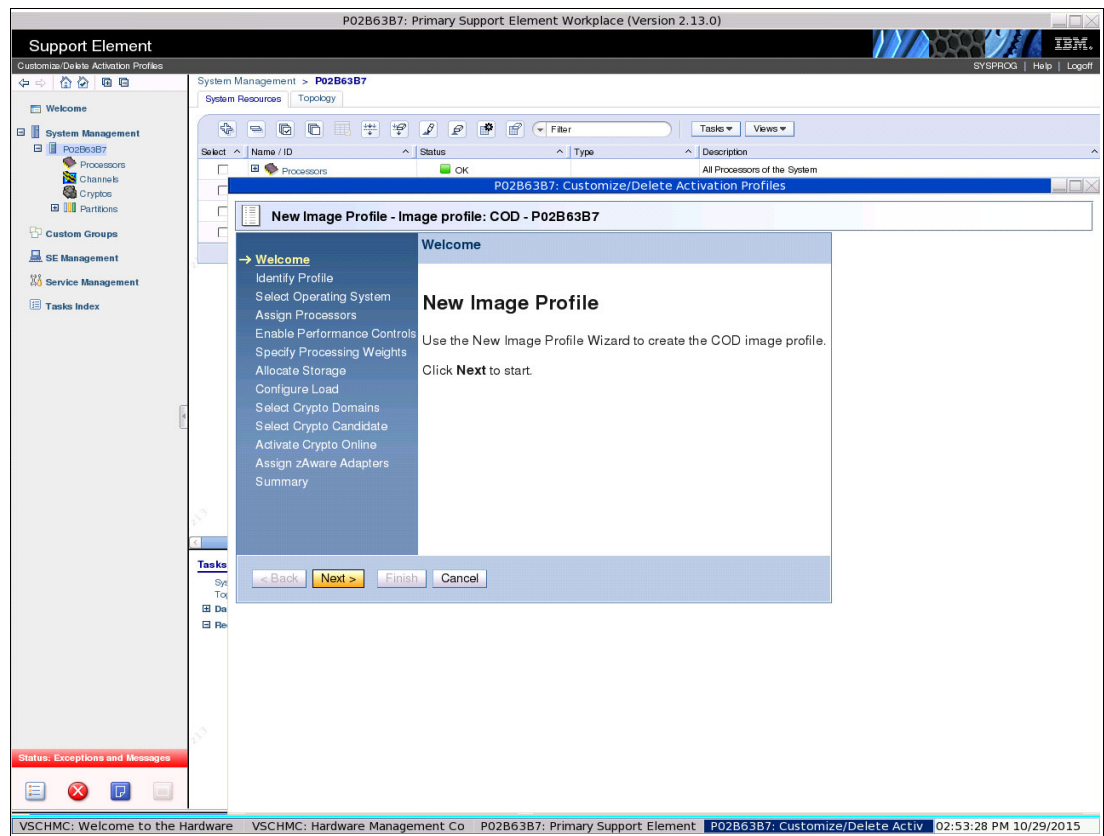

Figure 5-31 New Image Profile window
3. A new image profile window opens, as shown in Figure 5-31. We select **Next** to continue.